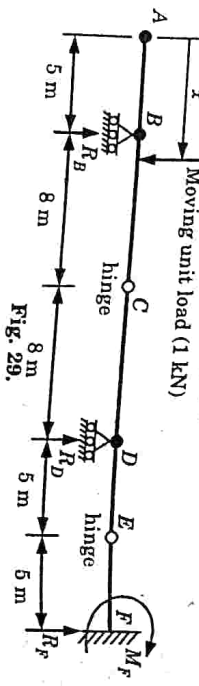

Fig. 29.
1. For a vertical or horizontal reaction component, the influence line for that reaction is constructed by removing the reaction component and then displacing the structure by 1.0 in the location of the reaction component and in the same direction as that component. This process is illustrated in Fig. 29.